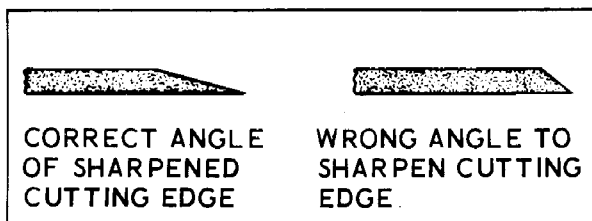

FIGURE 9
5. Sharpening Blades. See Figure 9.
With the engine shut off and after the blades have stopped spinning, check the mower blades periodically for nicks or dullness. Damaged, dull or improperly sharpened blades can cause a shattered, rather than, clean cut and brown areas of grass may develop. Refer to Figure 9 for the correct sharpening angle.